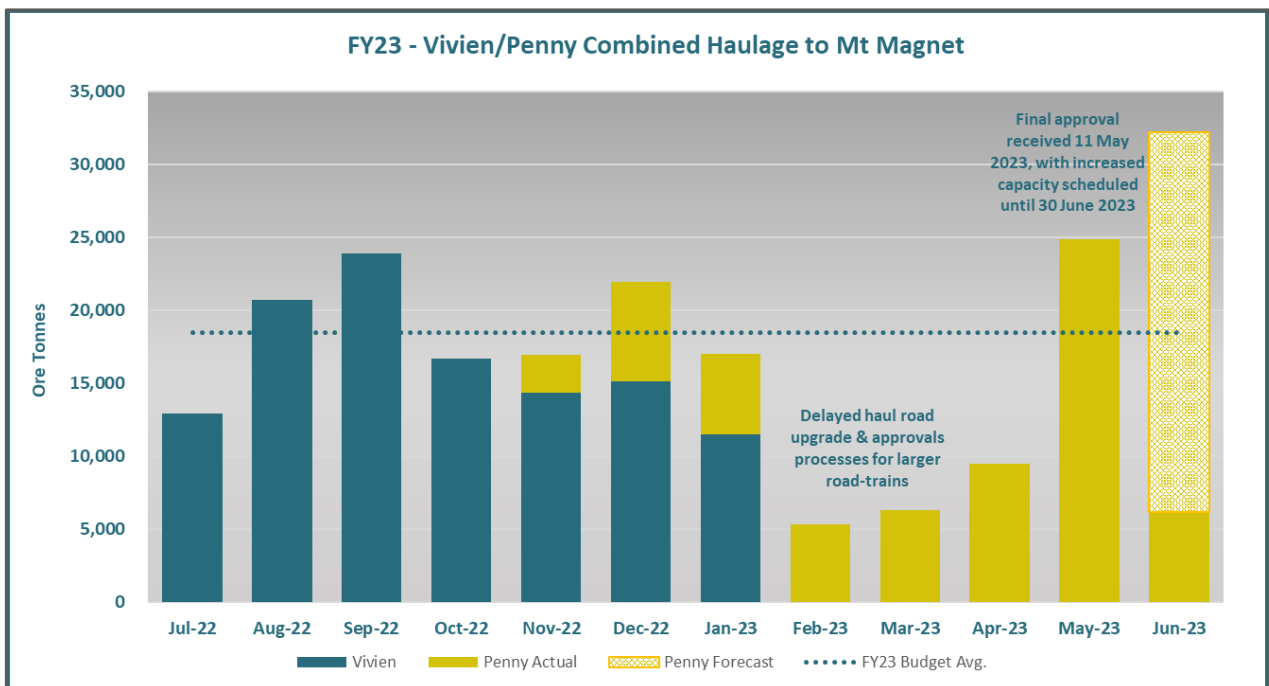

Figure 2: Ore haulage tonnes to Mt Magnet
- Increased haulage to Mt Magnet in May such that the plan to clear the site stockpile by 30 June 2023 remains in place (refer Figure 2)